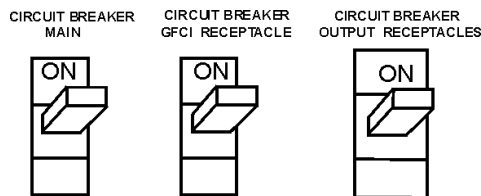

Figure 38. Main and GFCI Circuit Breakers
19. If there are no abnormal problems shown on the "MPEC" LED display, turn the MAIN, GFCI and LOAD circuit breakers to their ON position (Figure 38).